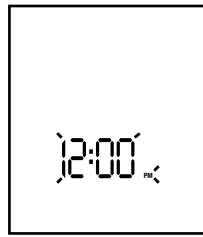

Figure 9
1. Press the Settings button once, the display is disabled except the Hour, Minute, AM or PM digits flashes. This signifies that the time is waiting to be adjusted. See Figure 9.
réglée. Voir la figure 9.